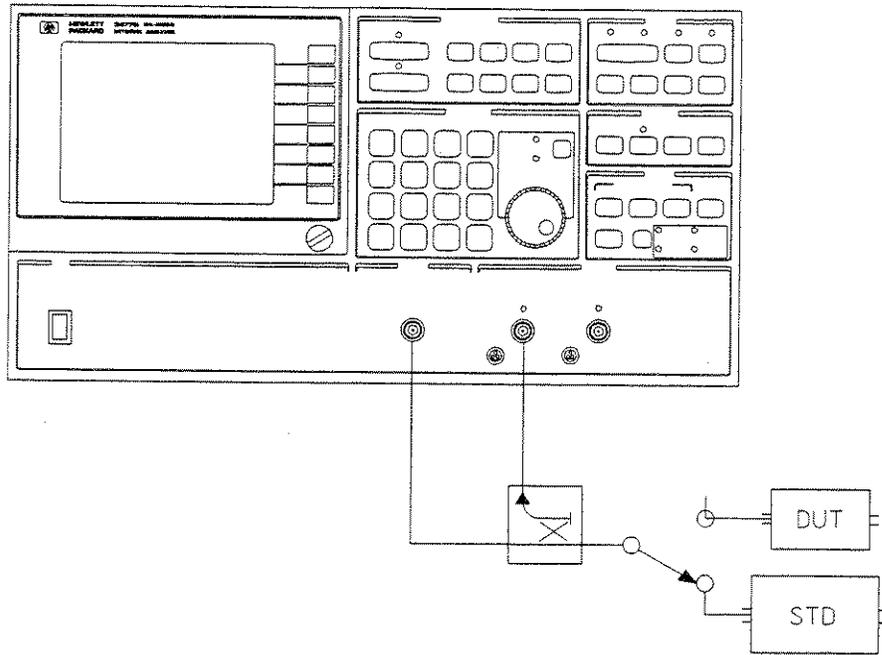

Figure 4-29
**NORMALIZE** is also used to calibrate a reflection measurement. The configuration shown in figure 4-29 should be used with an open as the standard. The procedure is the same as previously described except in step 2, disconnect the D.U.T. and connect it to a directional bridge that is open instead.
**NORMALIZE (SHORT)** is used for normalizing single port (reflection) measurements. The procedure is the same as [ NORMLIZE ] except connect a standard short to the directional bridge. See figure 4-29.